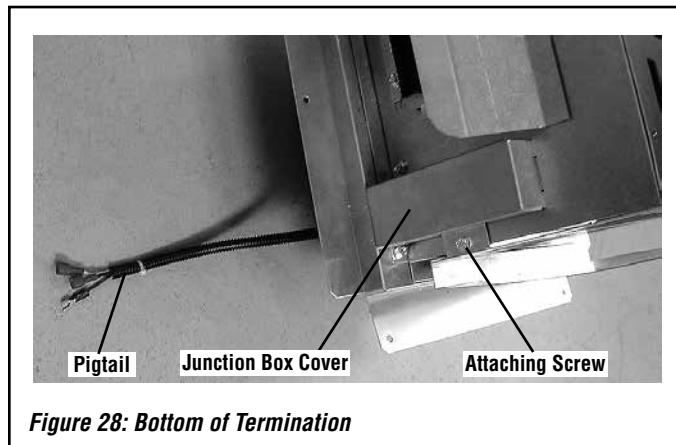

Figure 28: Bottom of Termination
- Locate a locally procured electrical junction box within reach of the termination wiring pigtail (refer to Figure 28 on Page 23) and route the pigtail to the junction box as the termination is installed.
- Remove the junction box cover from the termination by removing the attaching screw (refer to Figure 28).
- Loosen the strain relief on the termination shown in Figure 28. Pull the pigtail in and shorten it to fit within the junction box cover.